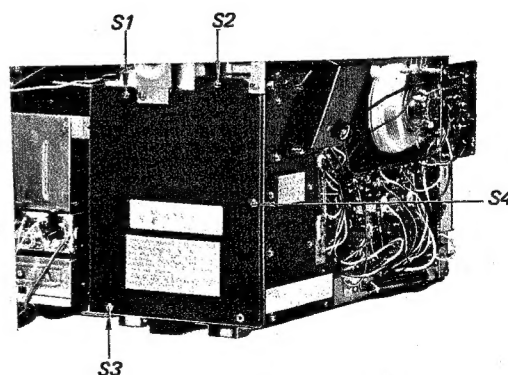

Fig. 2-26.
6. Remove the four screws labeled S1 ~ S4 in Fig. 2-26.